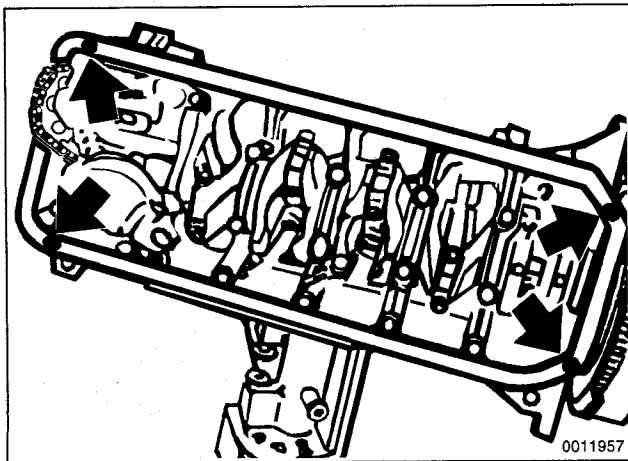

Fig. 12. Joint-mating areas at oil pan gasket where sealer should be applied (arrows). Apply a bead 3 mm wide by 2 mm high.
- Apply a small amount of non-hardening sealer (3-Bond 1209® or equivalent) to oil pan gasket directly below joints for end cover and front timing case cover. See Fig. 12.